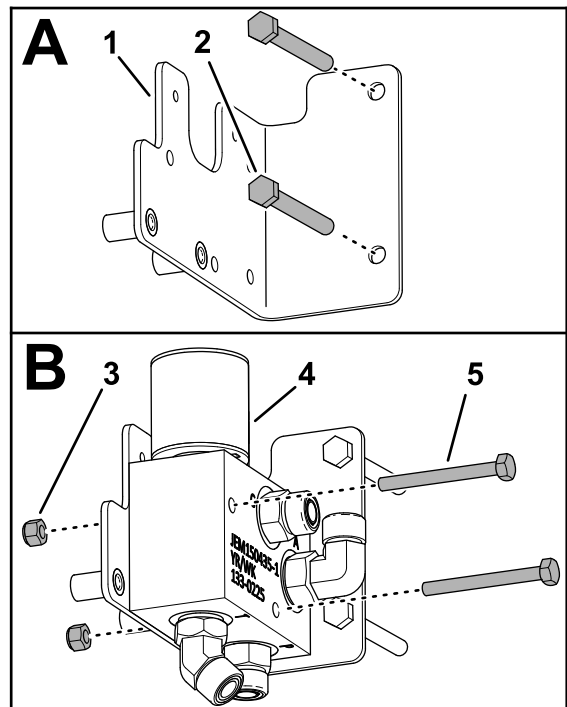

Figure 14
2. Assemble the bolts (5/16 x 2-3/4 inches) that you removed in step 1 through the holes in the low-flow valve bracket (Figure 14).